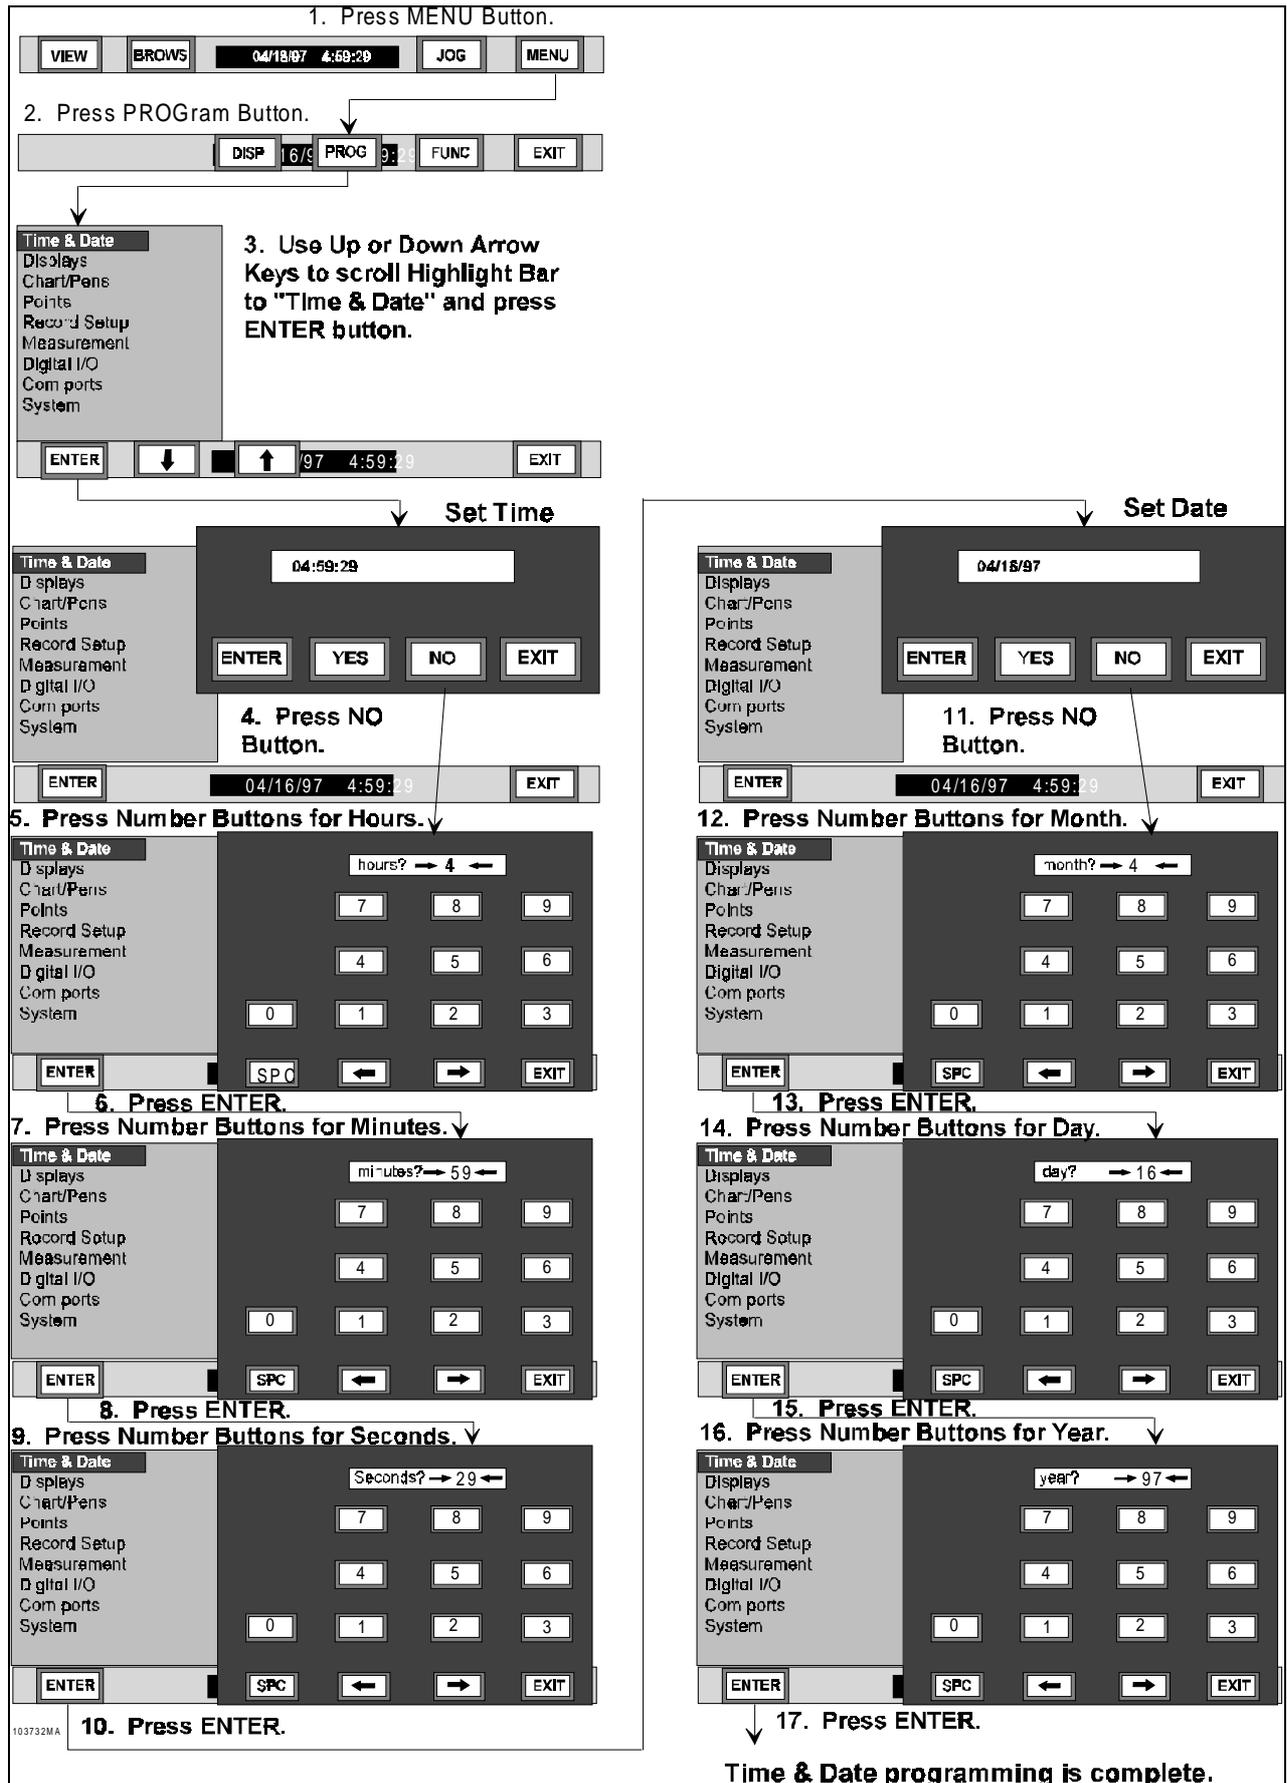

Figure 4-5 Time & Date Menu Item Flow Chart
4.3.2 How to Program Time and Date. The following steps detail how to set Time and Date on the Recorder. Also refer to Figure 4-5, Time and Date Setup Flow Chart, for details.